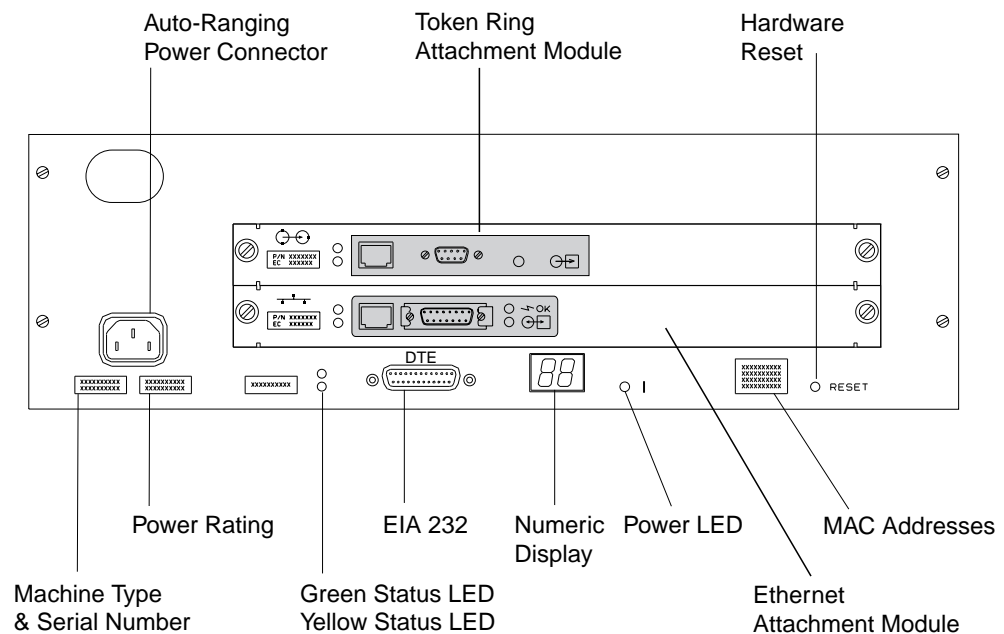

Figure 2-10. The Ethernet Bridge Front Panel
Notice the icon in the upper left-hand corner on the front. (See the matching symbol in the figures below.) Verify that the **token-ring module** is installed in the **upper slot** and the **Ethernet** in the **lower slot** of the ethernet bridge, refer to Figure 2-10 on page 2-10.
- 1) ____ Locate the first MAC address on top of the label on the front of the ethernet bridge (to the left of the reset button). See Figure 2-10 on page 2-10 for a view of the ethernet bridge front panel.
- c) ____ Locate the MAC addresses on the label on the front of the ethernet bridge (to the left of the reset button). See Figure 2-10 on page 2-10 for a view of the ethernet bridge front panel. **Enter the top two MAC addresses** recorded on the label. , then press **enter**.